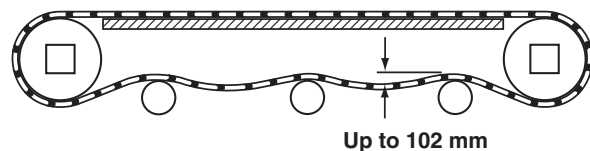

Figure 49
4. Check belt sag by measuring from the top of the return (**Figure 49**). Belt sag should not exceed 102 mm. Follow steps 7 – 9 in the “Belt Installation” section on page 14 to remove slack from the belt.